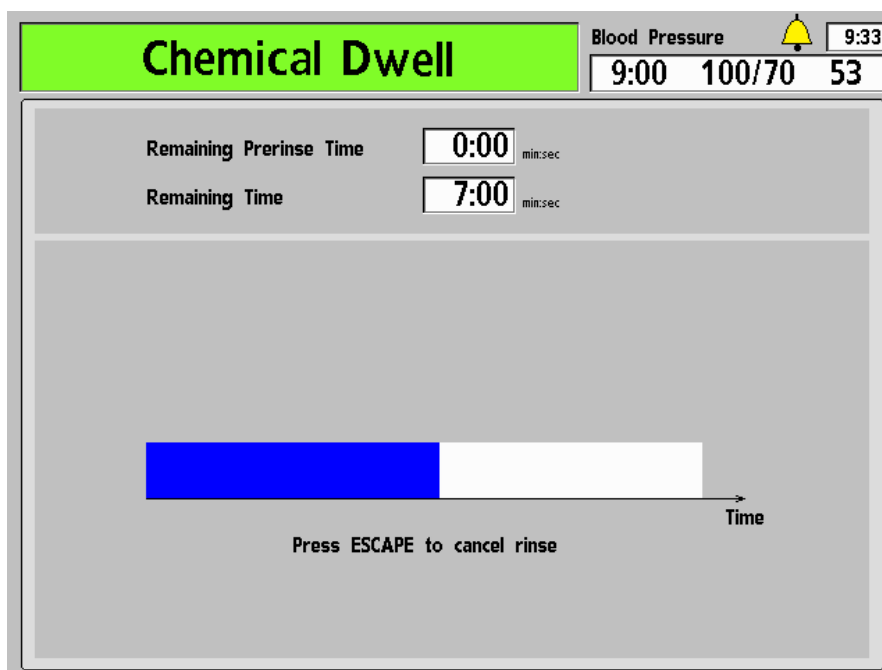

Figure 96 – The Chemical/Dwell Screen
5. The “Chemical/Dwell” screen appears in the display (see Figure 96). The progress of the disinfection program is indicated by the horizontal bar. The program starts with a 45 second rinse. The message, “Rinsing Line, Please Wait” is displayed in the Status Box.